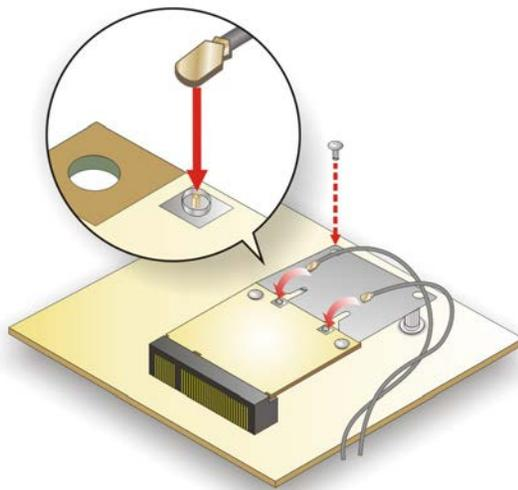

Figure 3-10: Securing WLAN Module and Connecting RF Cables
Step 7: **Secure the WLAN module.** Secure the WLAN module with the retention screw previously removed (**Figure 3-10**).
Step 8: **Connect the two RF cables** to the antenna connectors on the WLAN module (**Figure 3-10**).